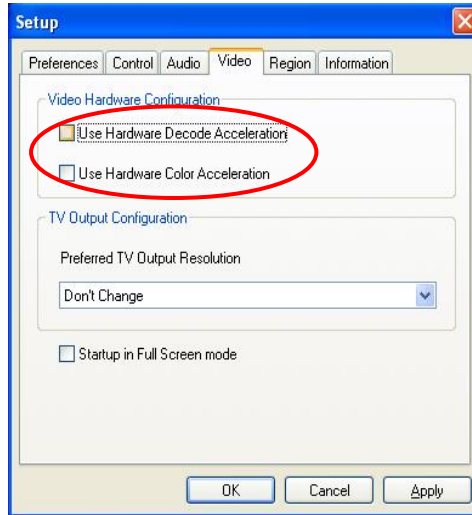

Figure B-5 Setup
- b. The following sub-panel is displayed, then click the circled part shown in figure B-5.